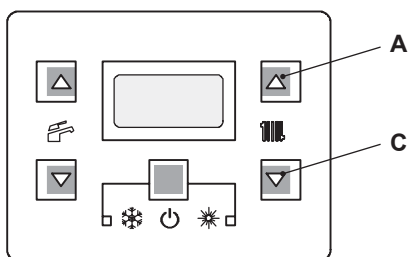

Figure 9.7
- 2 To move through the parameters press C.H. set keys (A or C Figure 9.7)
- 5 To change the parameters press C.H. set keys (A or C Figure 9.7).